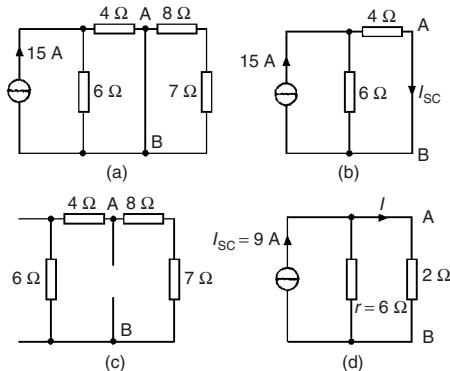

Figure 13.62
- The 2Ω resistance branch is short-circuited as shown in Fig. 13.62(a)
- Fig. 13.62(b) is equivalent to Fig. 13.62(a). Hence
- If the 15 A current source is replaced by an open-circuit then from Fig. 13.62(c) the resistance ‘looking-in’ at a break made between A and B is given by $(6+4)\Omega$ in parallel with $(8+7)\Omega$, i.e.
- From the Norton equivalent network shown in Fig. 13.62(d) the current in the 2Ω resistance is given by: